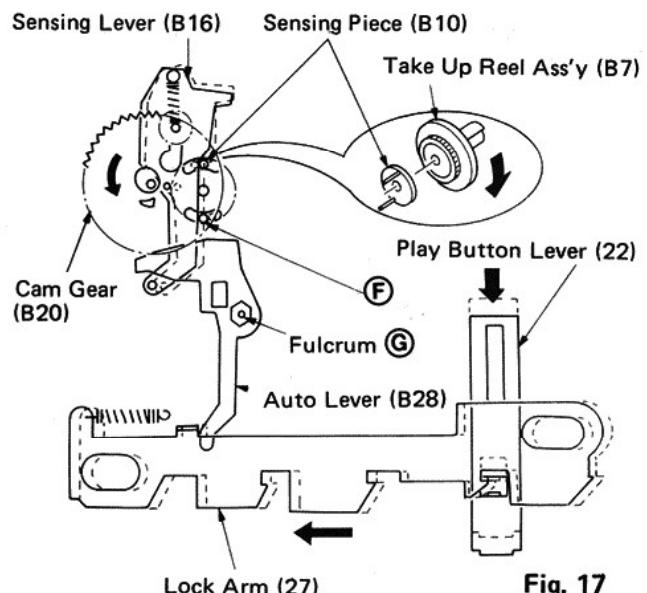

Fig. 17
- 1 When the tape is finished, the take-up reel (B7) stops its rotation and as a result the sensing piece (B10) coupled to the take-up reel loses its revolving force. Thus the sensing lever (B16) stops when it has returned to Point (F). (Fig. 17)